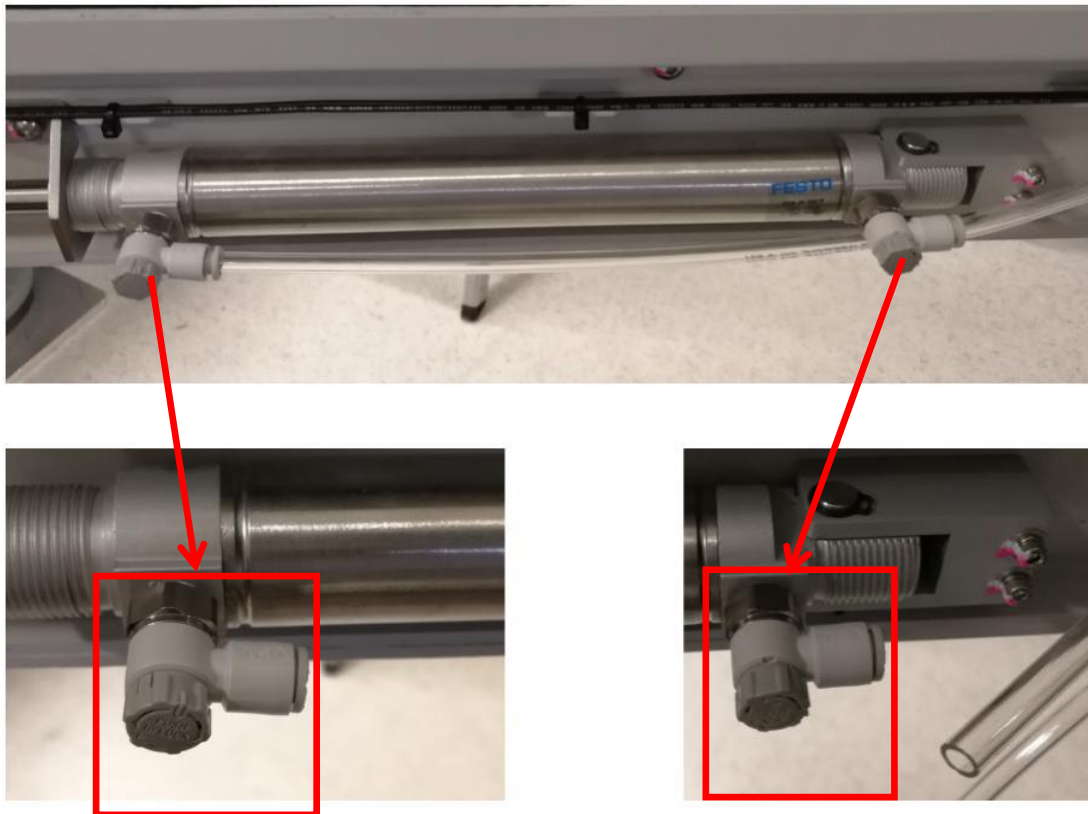

Figure 9
13. Remove 2 x Outer Barrier Speed Controllers as Figure 9.